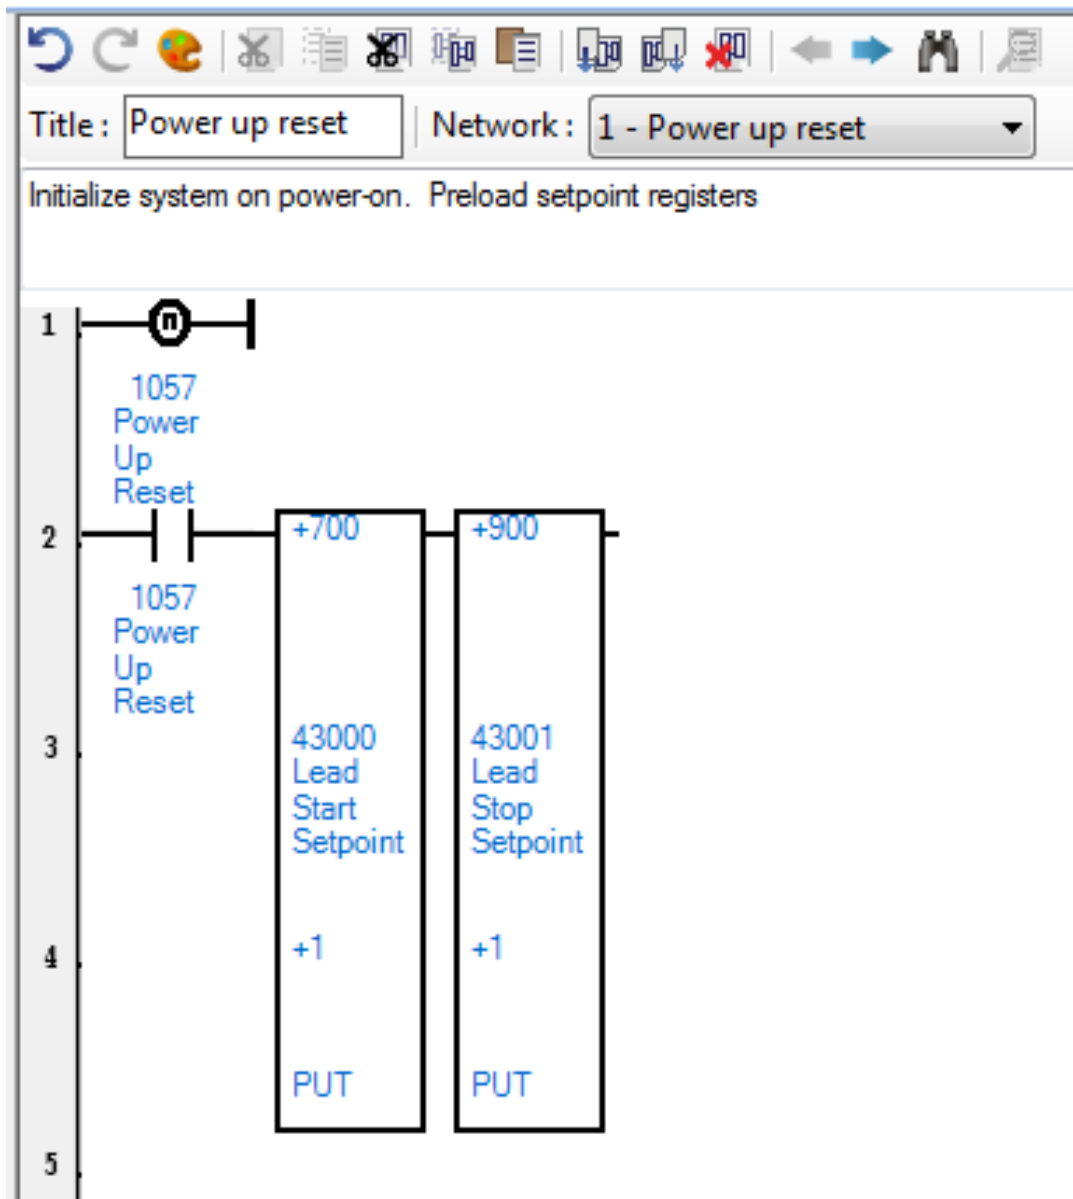

Figure 42: Completed Startup Network
- The network should look as shown in Figure 42: Completed Startup Network.